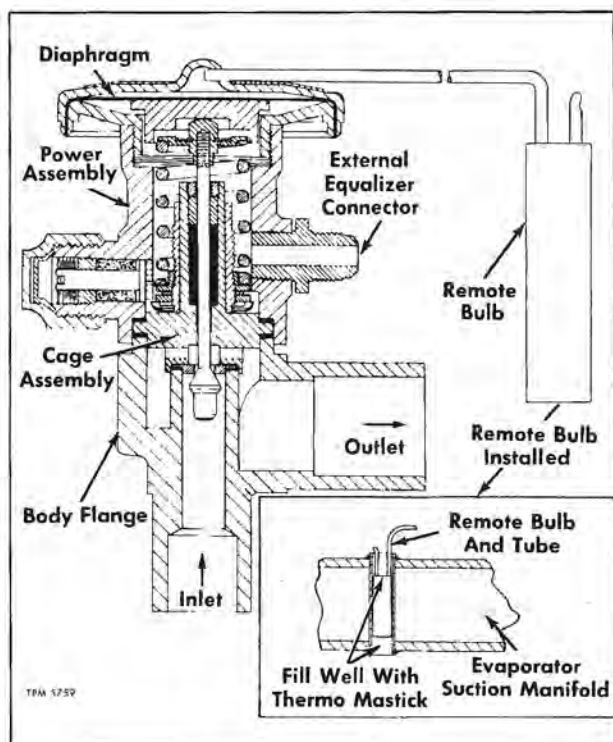
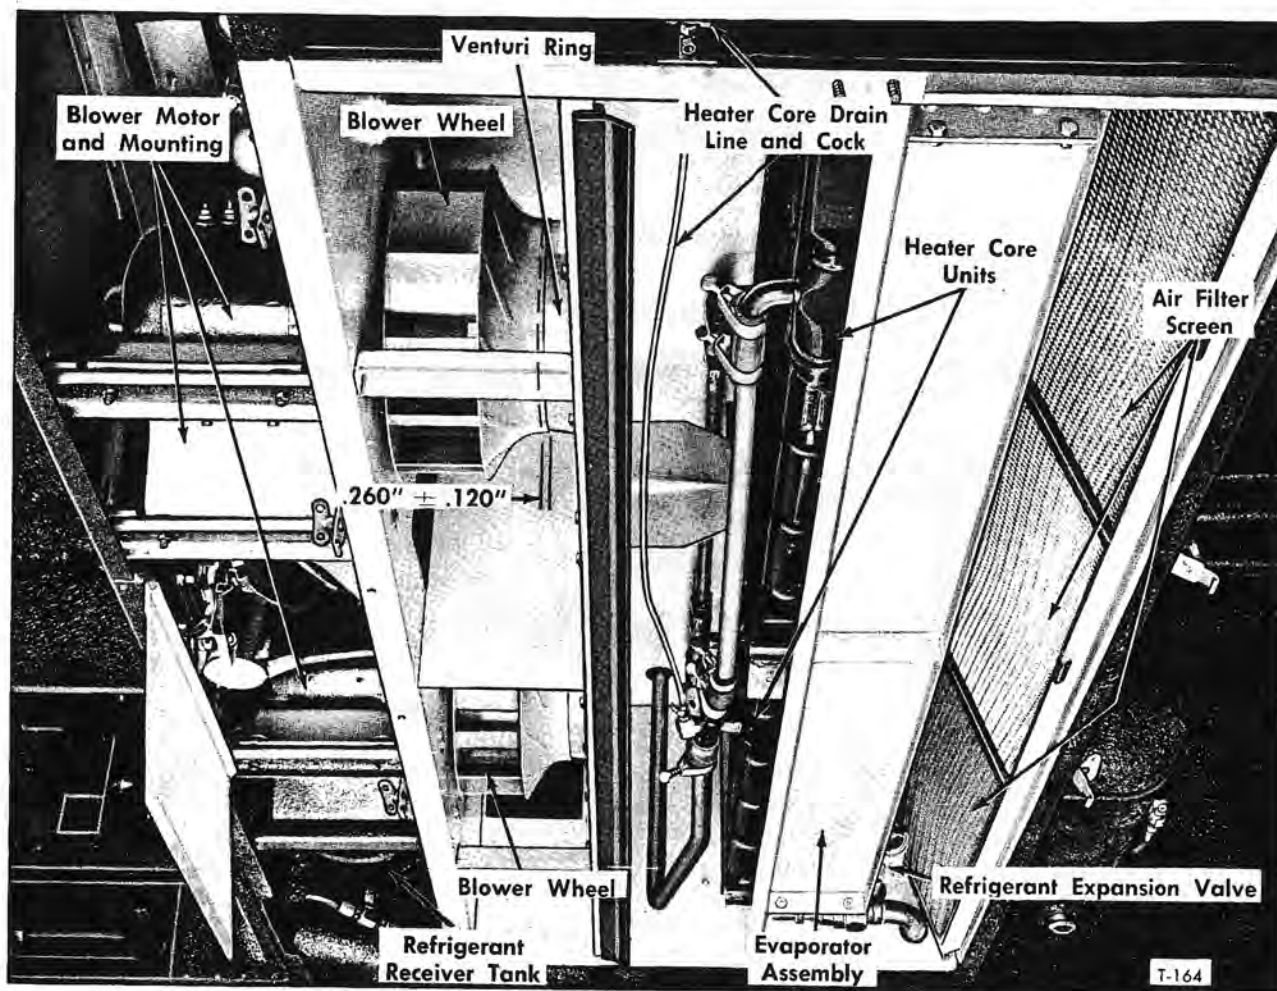

Figure 16—Sectional View of Expansion Valve
Figure 17—Cooling and Heating Compartment Closure Panels Removed
Expansion valve (fig. 16) is installed in the underfloor compartment at left end of evaporator coil as shown in figure 17. Valve is accessible for servicing or replacement only after the evaporator coil is removed. Expansion valve is set at the factory to provide the most efficient operation of the system, and should not normally require adjustment in the field. However, in the event a new evaporator coil and valve assembly or a new expansion valve power or cage assembly is installed, valve must be adjusted to provide the correct superheat at the evaporator outlet. In any event, do not adjust the expansion valve to compensate for insufficient cooling until all other possible causes are checked for and corrected.
**CONSTRUCTION (Fig. 16)**
### SERVICING THE EXPANSION VALVE (Fig. 16)
Finned tube type evaporator is mounted in heating and cooling compartment under floor (fig. 17). If the underfloor air filter screens installed ahead of the evaporator are serviced frequently enough, there should be no maintenance required on the evaporator. However, if servicing the filters is neglected, some particles of dust, lint, etc., may pass through the filter; since the evaporator coils and fins are moist, these particles will cling to them. Dirt on the coils and fins acts as insulation and reduces the efficiency of the system, and when operating in humid climates, objectionable odors may develop caused by a mold-like formation or growth. In the event the evaporator does become dirty, it must be cleaned with air pressure and water and some cleaning agent which is not harmful to the aluminum tubes and fins. Since the location of the evaporator is not conducive to thorough cleaning in the vehicle, and considerable time is required for removing the evaporator for cleaning, the importance of cleaning or changing the air filters at frequent intervals should be impressed upon all maintenance personnel.